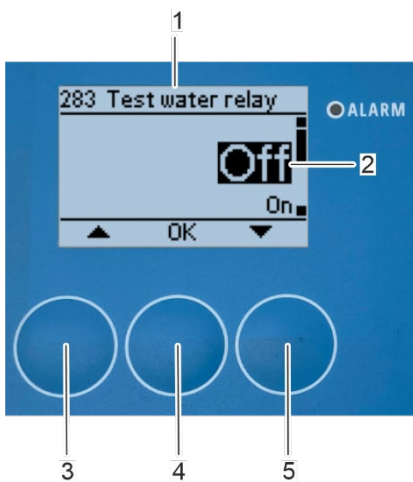

Fig. 152: Switch off water relay
⇒ The "283 Test water relay" submenu (Fig. 152/1) appears on the display.
6. Select "Off" (Fig. 152//2) with the arrow keys [up] (Fig. 152//3) and [down] (Fig. 67/5).
7. Confirm the selection with [OK] (Fig. 152//4).